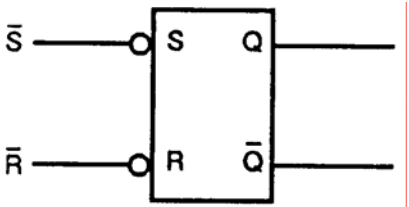

Figure Q-26. R-S Flip-Flop with State Indicator Outputs
(13) Where the inputs are active in their low state, the FF symbol will have STATE indicators at the S and R inputs, telling you that a low is required to set and reset the FF as in Figure Q-26.